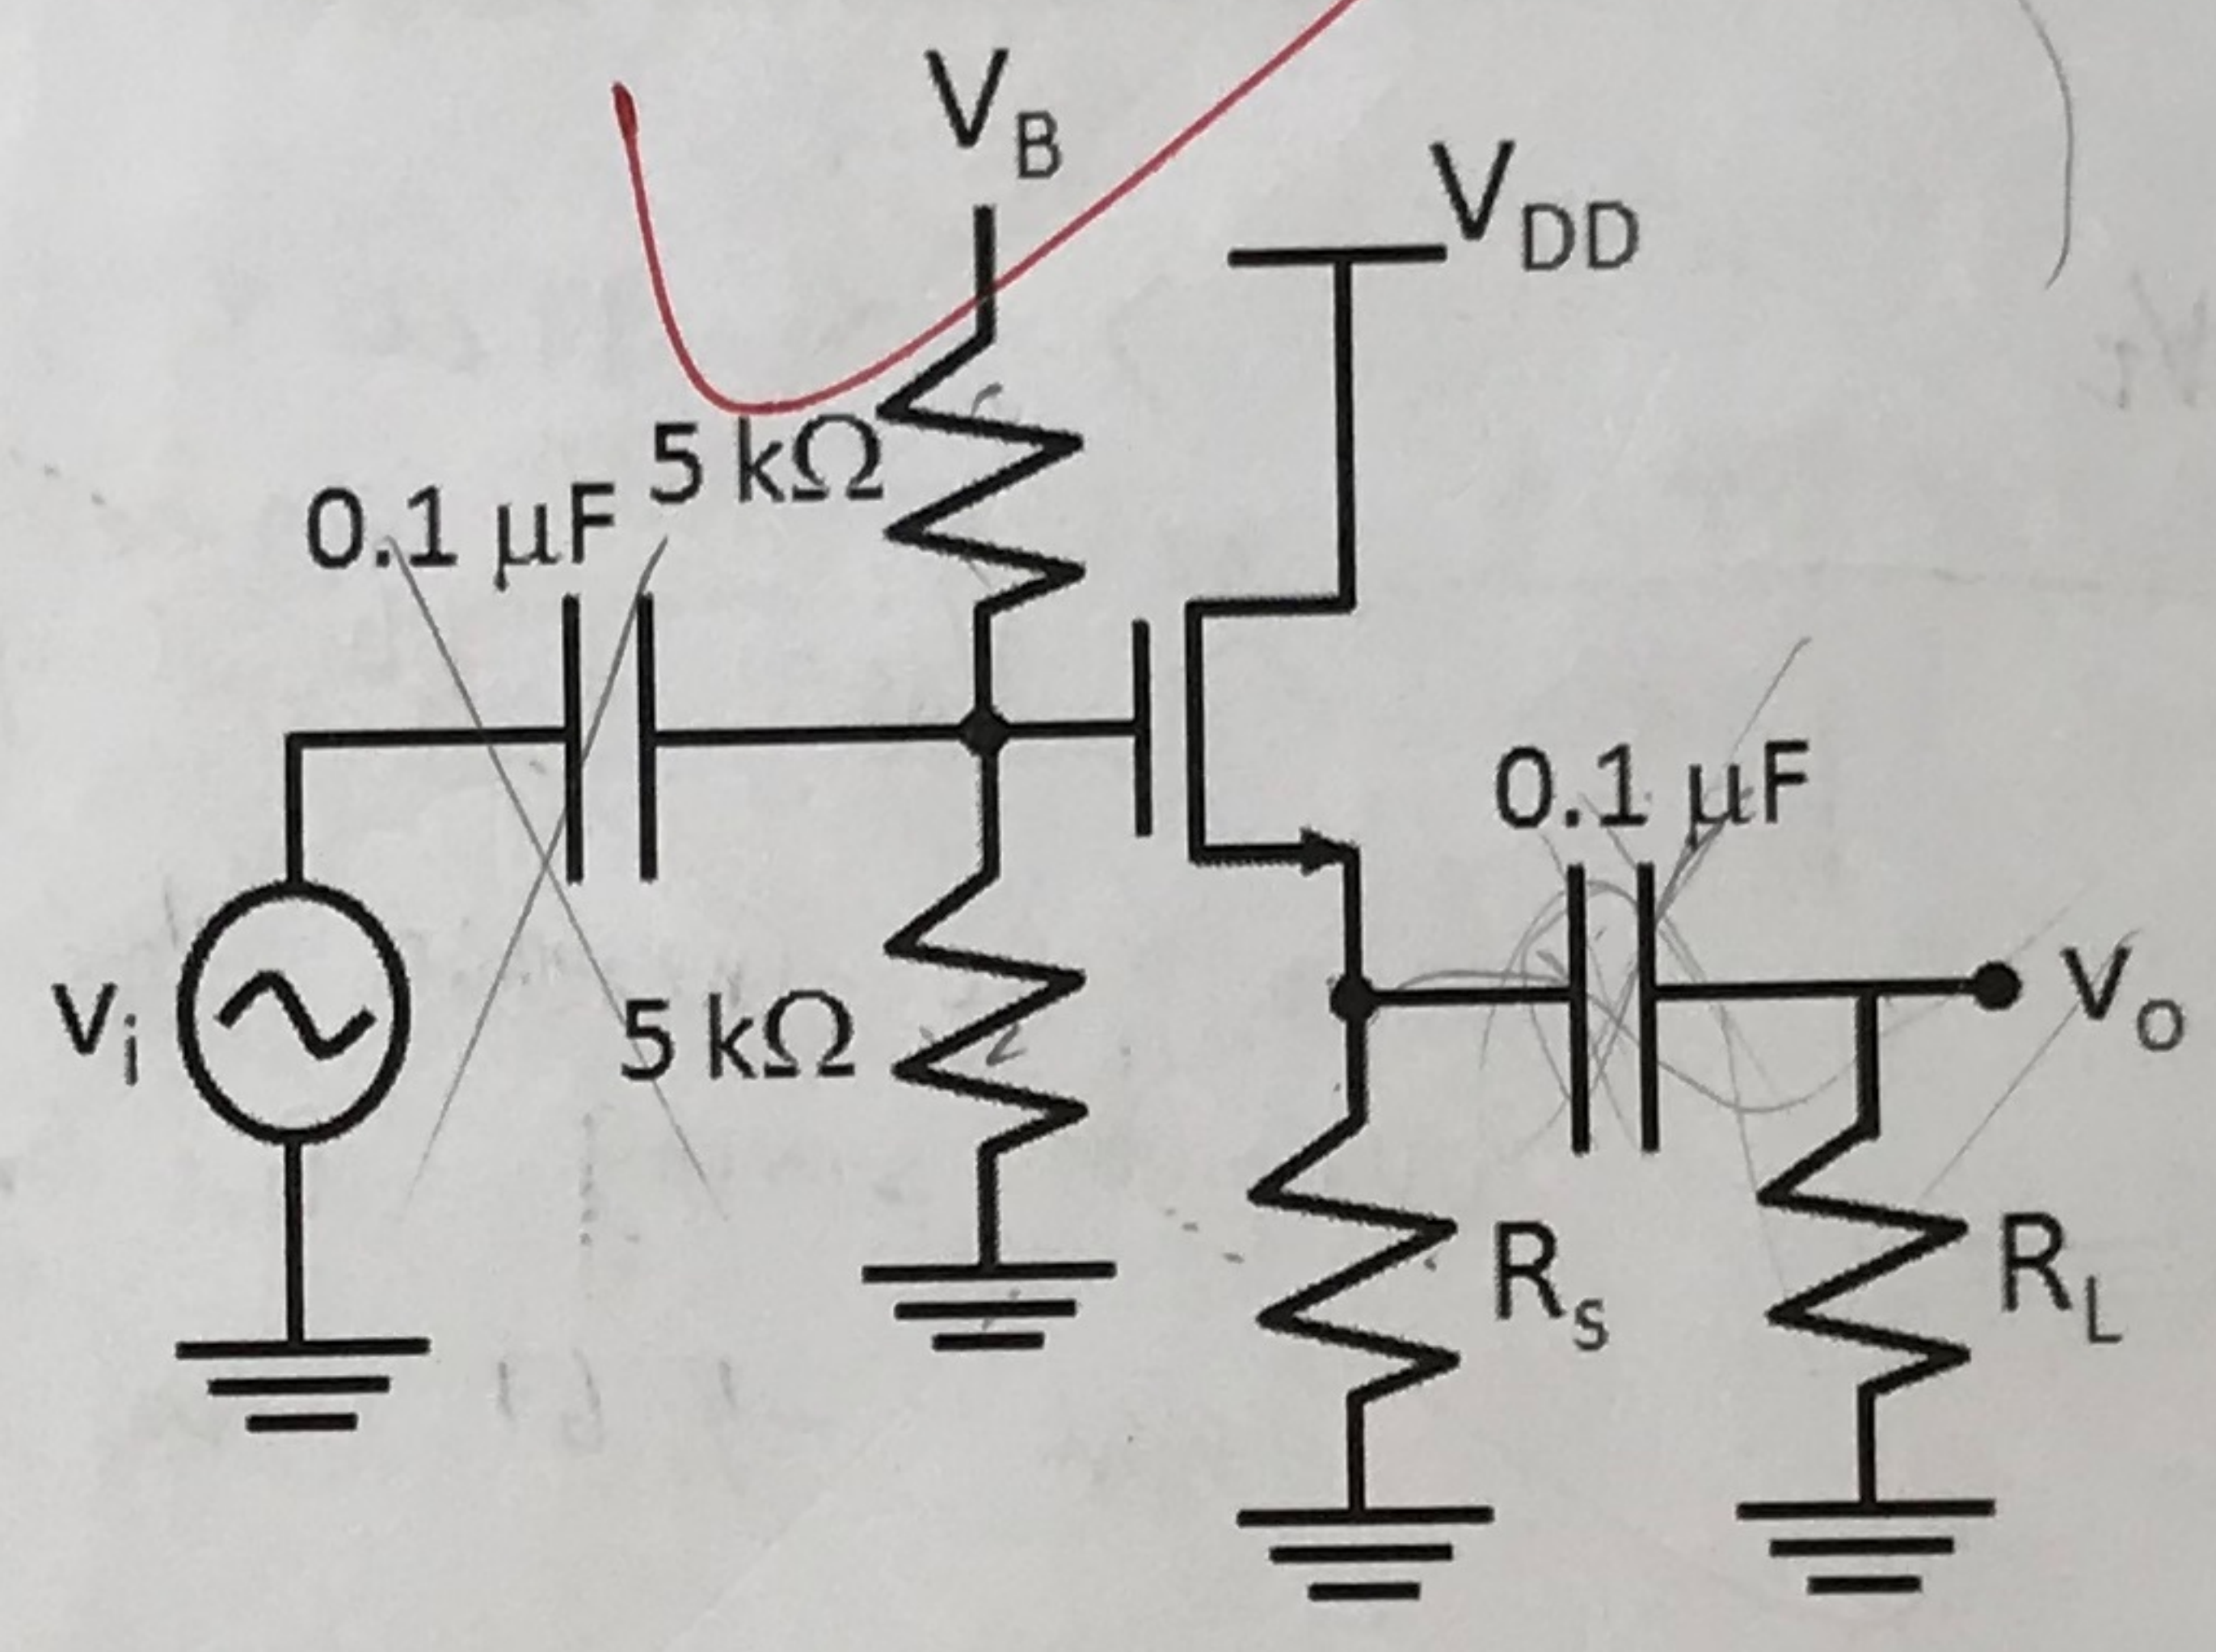

Fig. 3: Use different load resistors to test a CD amplifier.
1. Design the common-drain amplifier with the transistor of nodes 6-7-8 to achieve a small-signal gain larger than 0.8 by selecting R_S , where R_S is connected to the source of the transistor directly (please refer to Fig. 3, but do not connect R_L and $0.1 \mu F$ for now). Set $V_{DD} = 5.0 V$ and $V_G = 3.0 V$. Please explain your design process.
2. Add an additional resistor R_L and a coupling capacitor $0.1 \mu F$ as shown in Fig. 3 for the CD amplifier design. Use R_L values of $1 K\Omega$ and $10 K\Omega$, respectively, and measure the mid-band small-signal gain. This test is to investigate the effect of the load resistor on a CD amplifier. Compare the results under the two different loads. Also, compare the measured results with hand calculation. Comment on what you observe.